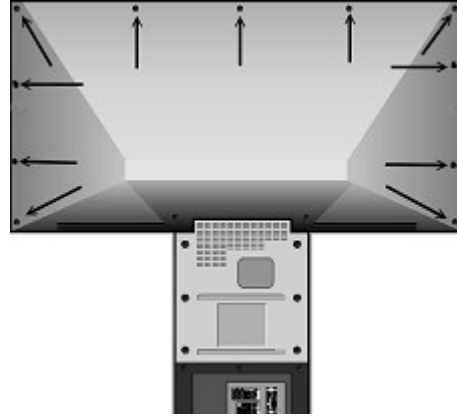

Figure 8
Step 1 – Remove eleven screws from the rear cabinet assembly, see figure 8.